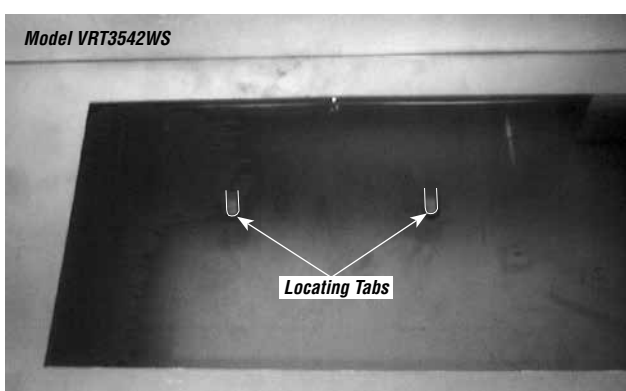
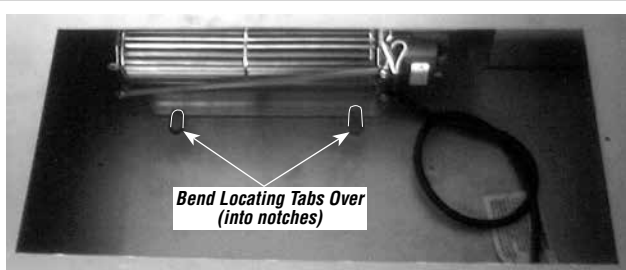

Figure 21 - VRT3542WS Shown
Figure 22 - VRT3542WS Shown
**Step 4.** Locate the tabs shown in *Figure 21*. Position the blower assembly so that the tabs (located on the cabinet base) are seated in the notches of the blower bracket. Bend the tabs over to secure the blower assembly (see *Figure 22*).